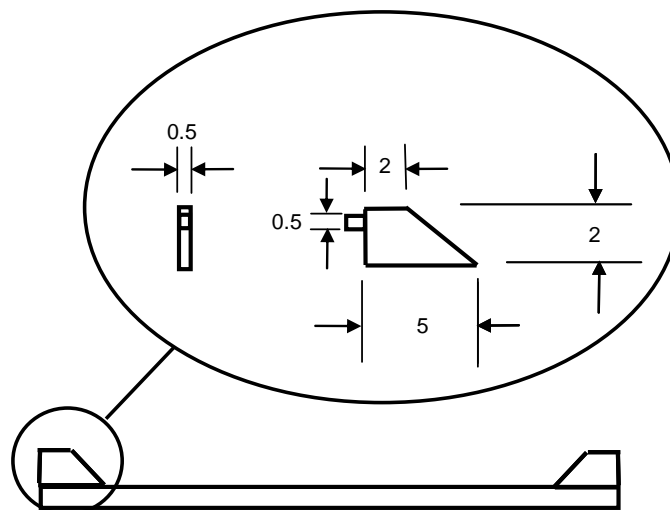
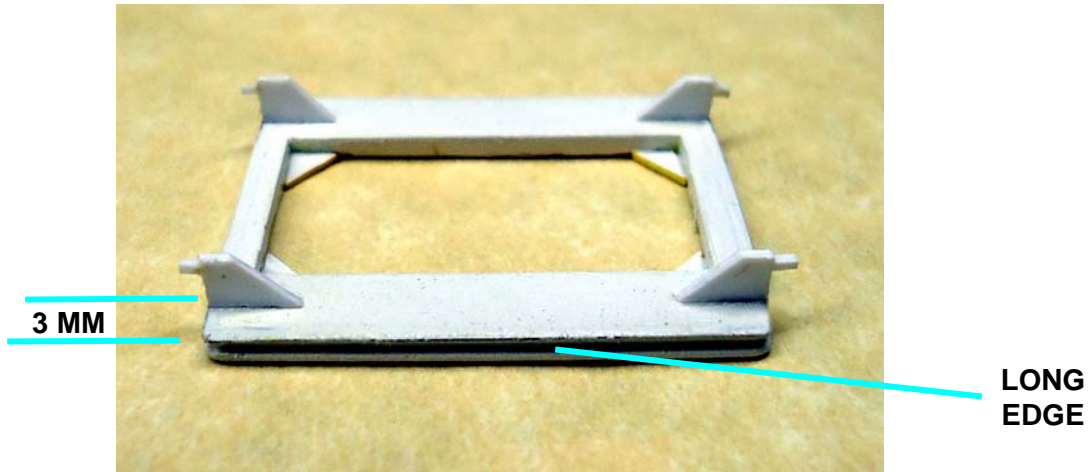

Figure 7. Loading Bracket Dimensions
Figure 8. Cradle Ready for Painting
The brackets proved to be too small to model in detail so I just added small pieces of plastic shaped to represent them. The dimensions I used are given in Figure 7 and the installed brackets are shown in Figure 8. You can get as detailed with these as you wish.
- 1) Cut four pieces of 0.5 mm plastic to the dimensions shown in Figure 7.
- 3) Measure 3 mm back from each long edge of the cradle and glue a bracket in position as shown in Figure 8.